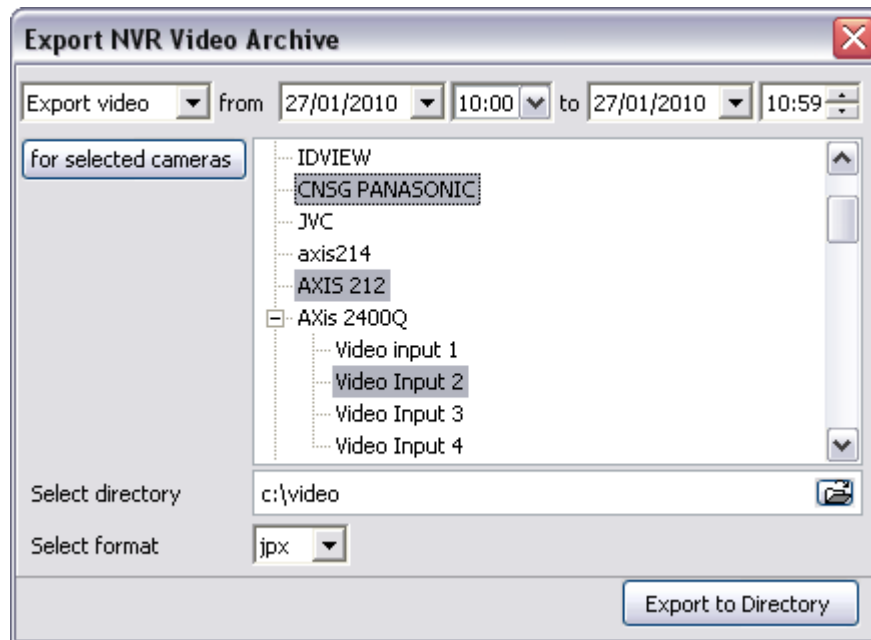

Fig 124. Export NVR Video Archive
1. When the range of time is defined, from the cameras list select the camera(s) from which to export recorded video (Fig 124).